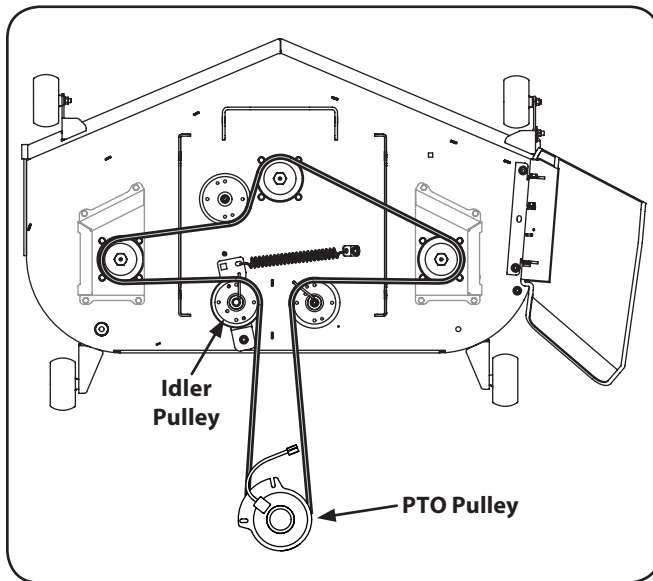

Figure 7-8
- Route the belt as shown in Fig. 7-8. After routing the belt around the PTO pulley, use a $\frac{1}{2}$ " drive in the idler pulley bracket and turn towards the back of the tractor to finish routing the belt around the idler pulley.
- Install the new belt around the spindle pulleys as shown in Fig. 7-8 and reinstall the belt covers.